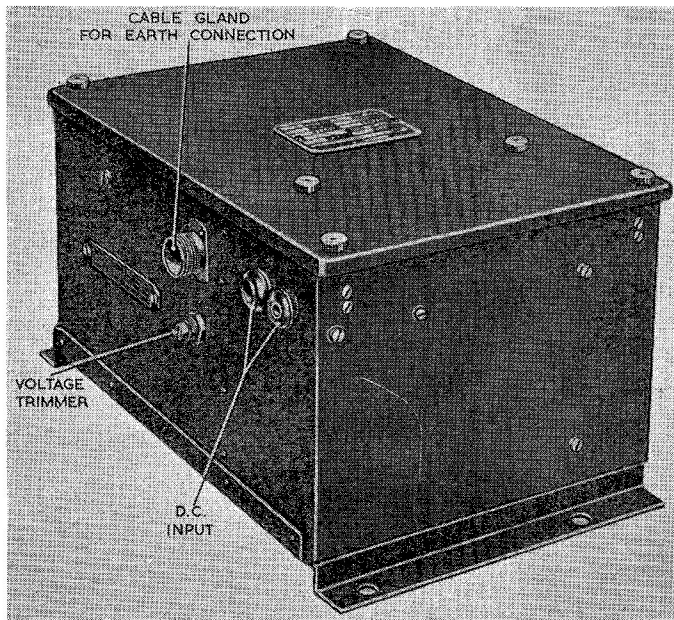

Fig. 1. General view, control panel Type 38
1. The control panel Type 38 (fig. 1) is used to control the output of the Type 206 inverter at 115 V, a.c. $\pm 2\frac{1}{2}$ per cent. The control panel is, in fact, electrically identical to the control box on the Type 200 inverter and the Type 206 inverter is electrically the same in all respects to the Type 200 inverter. The separation of the control box from the inverter has occurred purely through installation difficulties in certain aircraft.